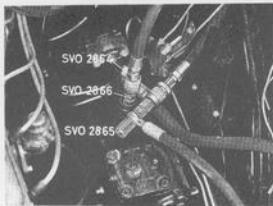

Fig. 6-69. Pressure gauge connected
1. Connect the test instrument 2864 to the delivery line at the steering housing, see Fig. 6-69. The inlet hose of the instrument is connected to the banjo nipple with tool 2865 (Fig. 6-69) and the outlet hose to the steering housing with tool 2866 (r-h steered vehicle, tool 2990). Check to make sure that the operating lever of the instrument is in the open position (to the left).